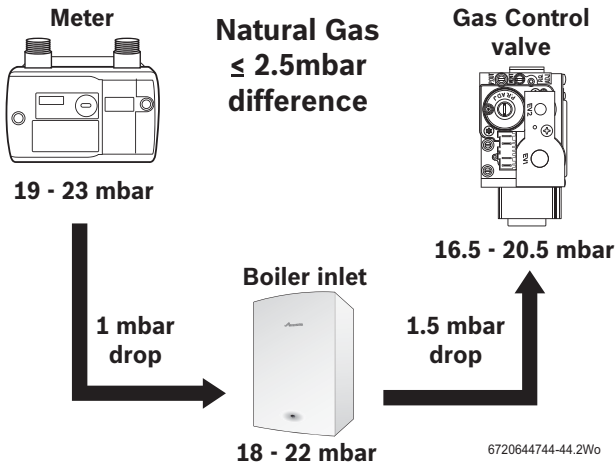
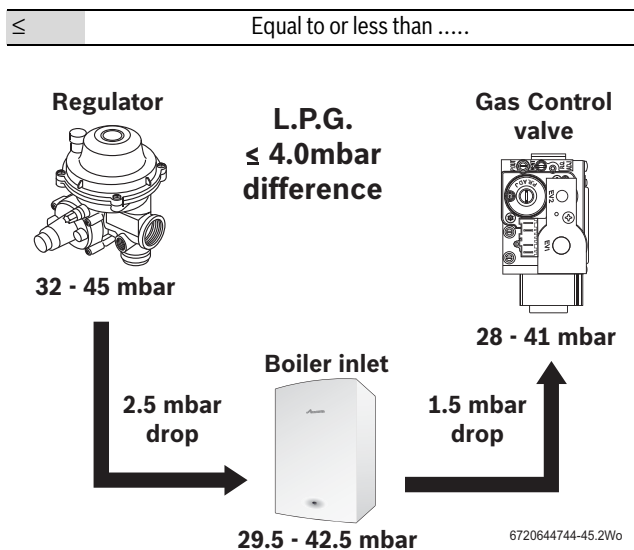

Fig. 43 Natural gas pressures
Fig. 44 LPG pressures
- ▶ Slacken the screw in the inlet pressure test point (1) and connect a manometer.
- ▶ Check the gas supply working pressure at the gas valve conforms to values shown in Fig. 43 or Fig. 44 .